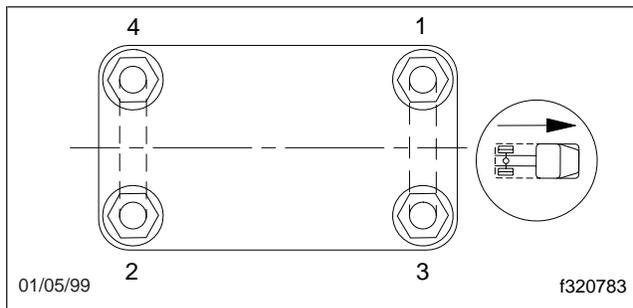

Fig. 2, Tightening Sequence for U-Bolt High Nuts
* Tighten in the sequence shown in Fig. 2.